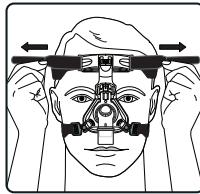
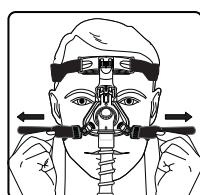

Figure 4
Figure 5
3. Adjust the headgear evenly using the top (Figure 4) and bottom (Figure 5) headgear straps. The mask should rest comfortably against your face.